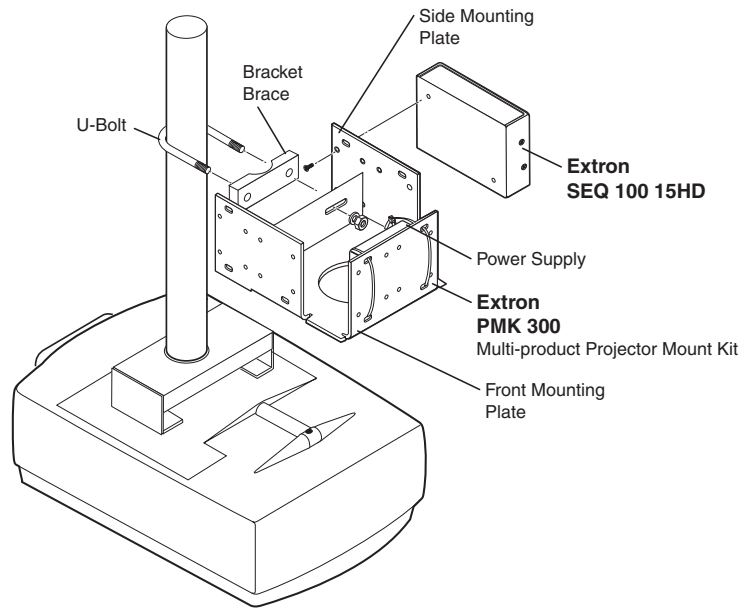
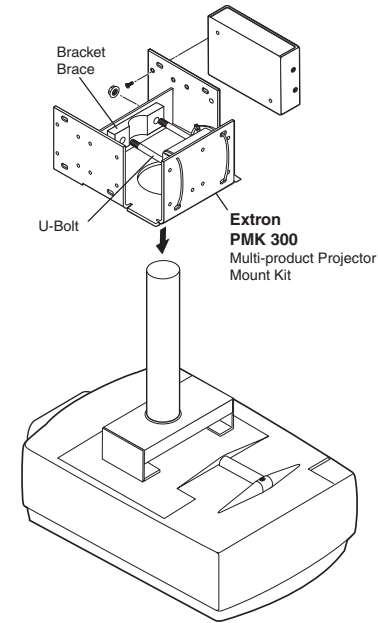

Figure 8 — PMK 300 projector mounting an SEQ
Figure 9 — Projector pole on the inside
Mount the SEQ to a PMK 300 bracket (figure 8) as follows:
2. Mount the SEQ to one of the bracket's three mounting plates using two of the supplied 4-40 x 3/16" screws in opposite (diagonal) corners to secure the device to the bracket. It can be vertically mounted facing either up or down (figure 8).
NOTE The PMK 300 has a hole in the bottom plate that allows the projector pole to be inserted through the center of the plate (figure 9), rather than outside of the plate (figure 8). To install the PMK 300 in this configuration, slide the bracket up from the bottom of the pole before the projector is installed on the pole.